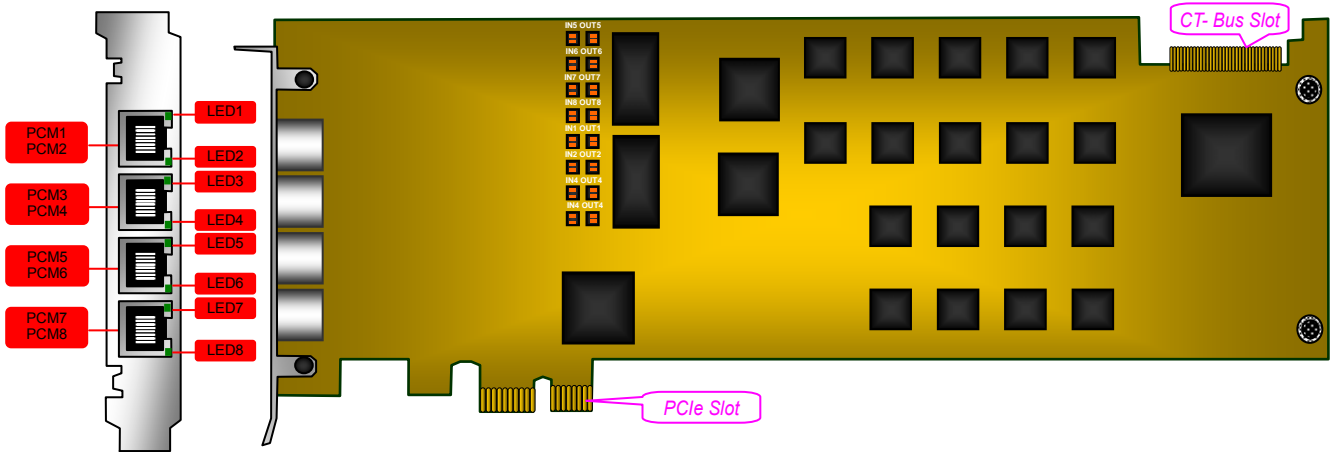

Figure 2-1 Left and Front Views
1. In Figure 2-1, PCM1 ~ PCM8 indicate 8 trunk interfaces while LED1 ~ LED8 represent their synchronization indicators;